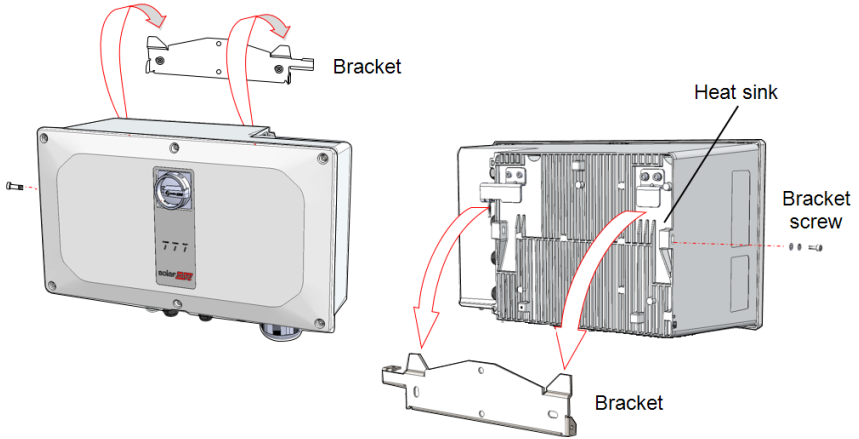

Figure 14: Hanging the Synergy Manager
- Align the two indentations in the enclosure with the two triangular mounting tabs of the bracket, and lower the unit until it rests on the bracket evenly (see *Figure 14*).
- b. Align the two indentations in the enclosure with the two triangular mounting tabs of the bracket, and lower the unit until it rests on the bracket evenly (see *Figure 14*).